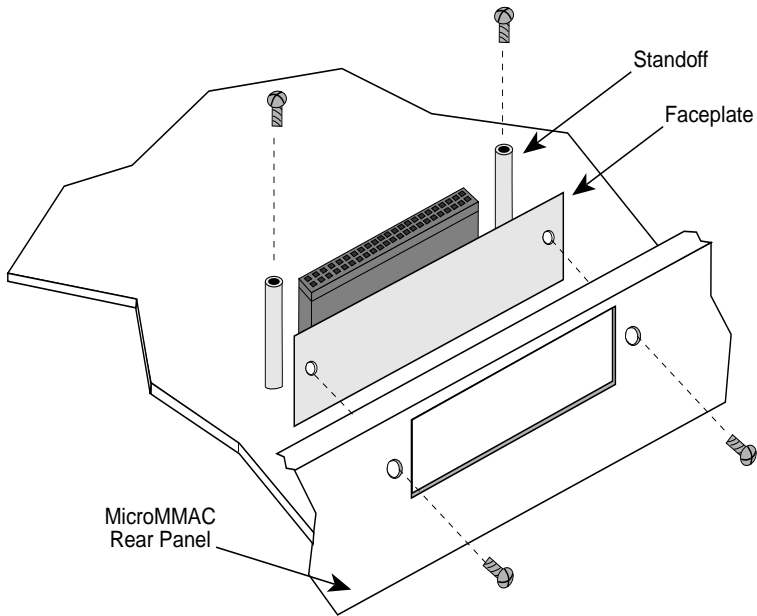

Figure 2-1. Removing the Faceplate and Standoff Screws
1. Remove the screws from the BRIM slot faceplate at the rear panel of the MicroMMAC as shown in Figure 2-1.